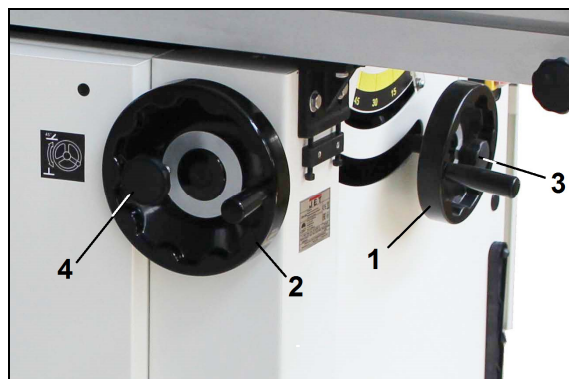

Fig 11
Fitting the elevation handwheel (1, Fig 11) and angle handwheel (2) onto the elevation and angle shaft.